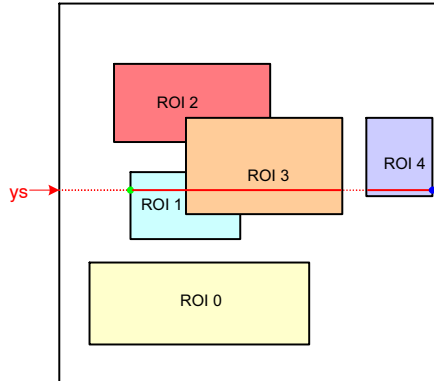

Figure 25. Scanning the Image Array with Five Subwindows
Figure 25 illustrates a practical example of a configuration with five windows. The current position of the read pointer (*ys*) is indicated by a red line crossing the image array. For this position, three windows need to be read out. The initial start position for the x-kernel pointer is the x-start configuration of ROI1. Kernels are scanned up to the ROI3 x-end position. From there, the x-pointer jumps to the next window, which is ROI4 in this illustration. When reaching ROI4's x-end position, the read pointer is incremented to the next line and *xs* is reinitialized to the starting position of ROI1.
- The read pointer is not necessarily incremented by one, but depending on the configuration, it can jump in y-direction. For Figure 25, this is the case when reaching the end of ROI0 where the read pointer jumps to the y-start position of ROI1.